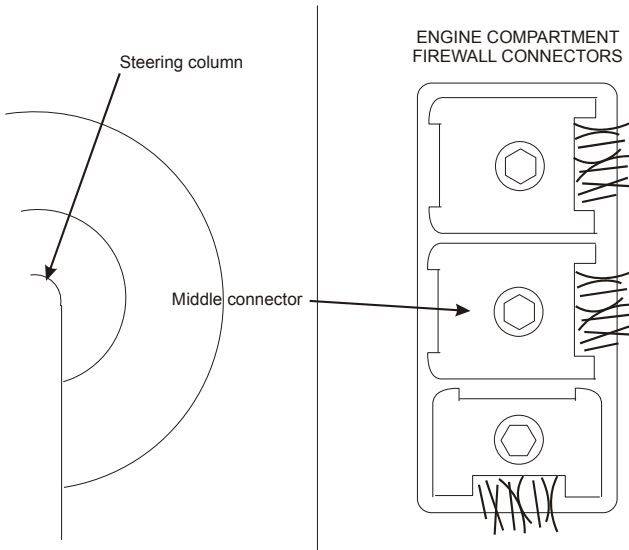

Figure 4.7
- Route the white wire to the middle connector on the driver's side of the firewall in the engine compartment (Figure 4.7).